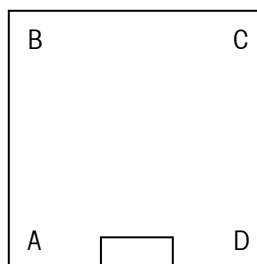

Figure 5-1: Test Weight Locations
3. Figure 5-1 shows the locations (A, B, C, and D) for positioning test weights equal to 1/4 of the scale's rated capacity. Place the test weight at location A and record the weight reading. Then move the test weight to location B and record the weight reading. Continue until you have taken a weight reading at each of the four locations.